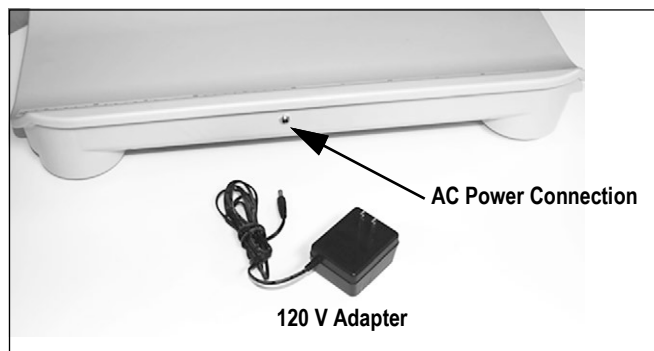

Figure 2-1. AC Power Connection Site
1. Plug AC adapter cable into the back of the scale (Figure 2-1 on page 6) and the AC adapter plug into a power source.